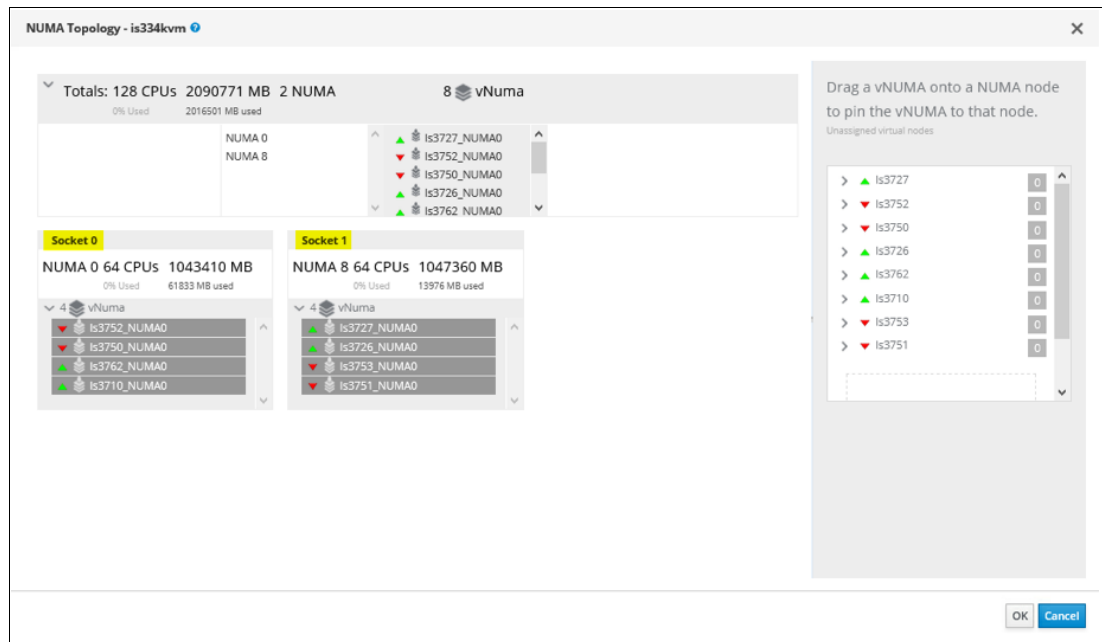

Figure 4-42 NUMA Topology window
- Configure the non-uniform memory access (NUMA) topology, as shown in Figure 4-42. Performance optimization is used to pin VMs to dedicated bare metal CPU sockets (NUMA Pinning and NUMA Topology).